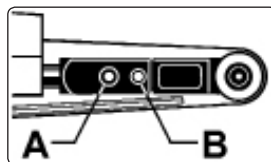

fig. 4
- 4.5. The tracking of the belt can be altered by adjusting the two recessed hex socket screws on the idle pulley bracket (see fig.4). Loosen the locking screw 'A' using the hex key provided. Using the same key turn screw 'B' to alter the tracking. When the belt is running true, lock the setting by re-tightening bolt 'A'.